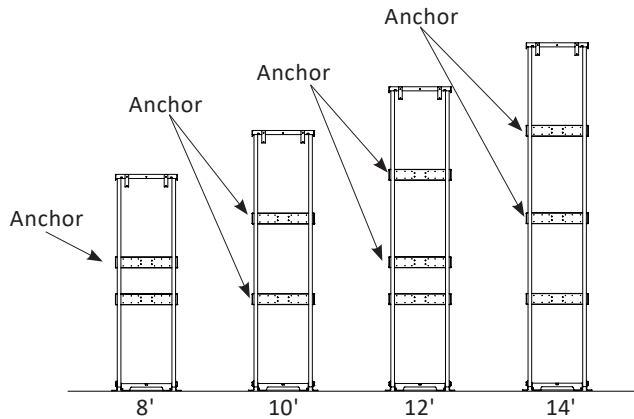

Figure 4-17
1. 8' models must have the lift tower anchored into a solid surface at or above the top cross-brace of the tower frame. 10' or taller models must have the lift tower anchored at two (2) levels into a solid surface at or above the top two (2) tower cross braces. This is to ensure running clearances remain constant. There are two options for anchoring the top of the tower. *See Figure 4-17.*